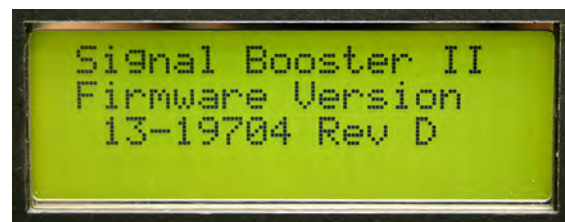

Figure 6: Software version is displayed briefly during the boot-up sequence.
- 3) The LCD display shows the firmware revision screen for about 5 seconds (see **Figure 6**).